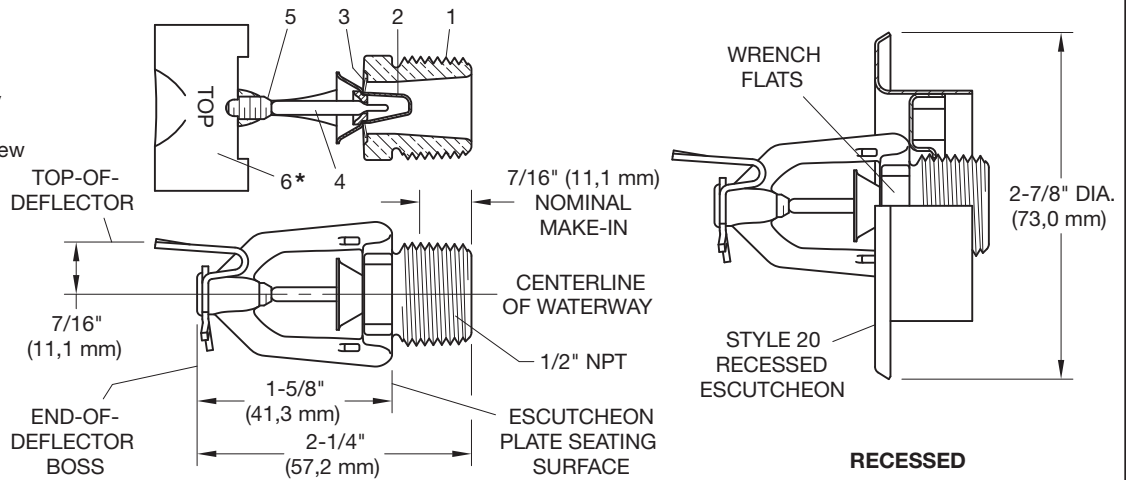
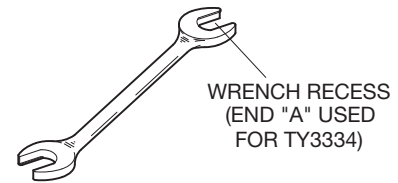
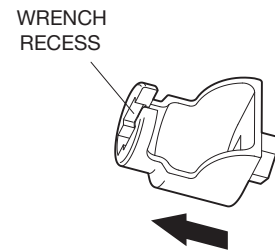

FIGURE 1
FIGURE 3
FIGURE 4
Step 3. Tighten the sprinkler into the sprinkler fitting using only the W-Type 6 Sprinkler Wrench (Figure 3). With reference to Figure 1, the W-Type 6 Sprinkler Wrench is to be applied to the wrench flats.
Step C. Tighten the sprinkler into the sprinkler fitting using only the W-Type 7 Recessed Sprinkler Wrench (Ref. Figure 4). With reference to Figure 1, the W-Type 7 Recessed Sprinkler Wrench is to be applied to the sprinkler wrench flats.